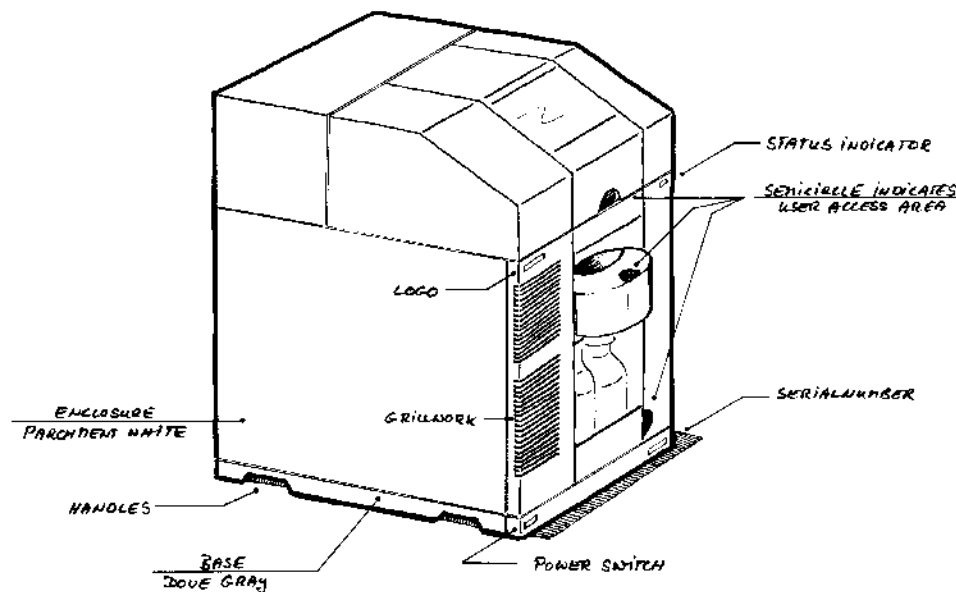

Fig. 1. Industrial design features of the HP CE instrument.
As the project proceeded, a model of the outside cover was built (see Fig. 1). The visibility of the product in the form of the model further enhanced identification with the project, even beyond project team borders.
- Emphasizing system character with a view to the HP PC, since the HP instrument is controlled by a PC. If the outward appearance of these two components is harmonized, it not only suggests that they come from the same company, but much more important, that they easily communicate with one another. In our case, this is achieved by equal use of volumes and forms as well as by HP identity elements such as coloring (bottom: dark grey, top: light), radii, HP nameplate, and power switch (see Fig. 1).